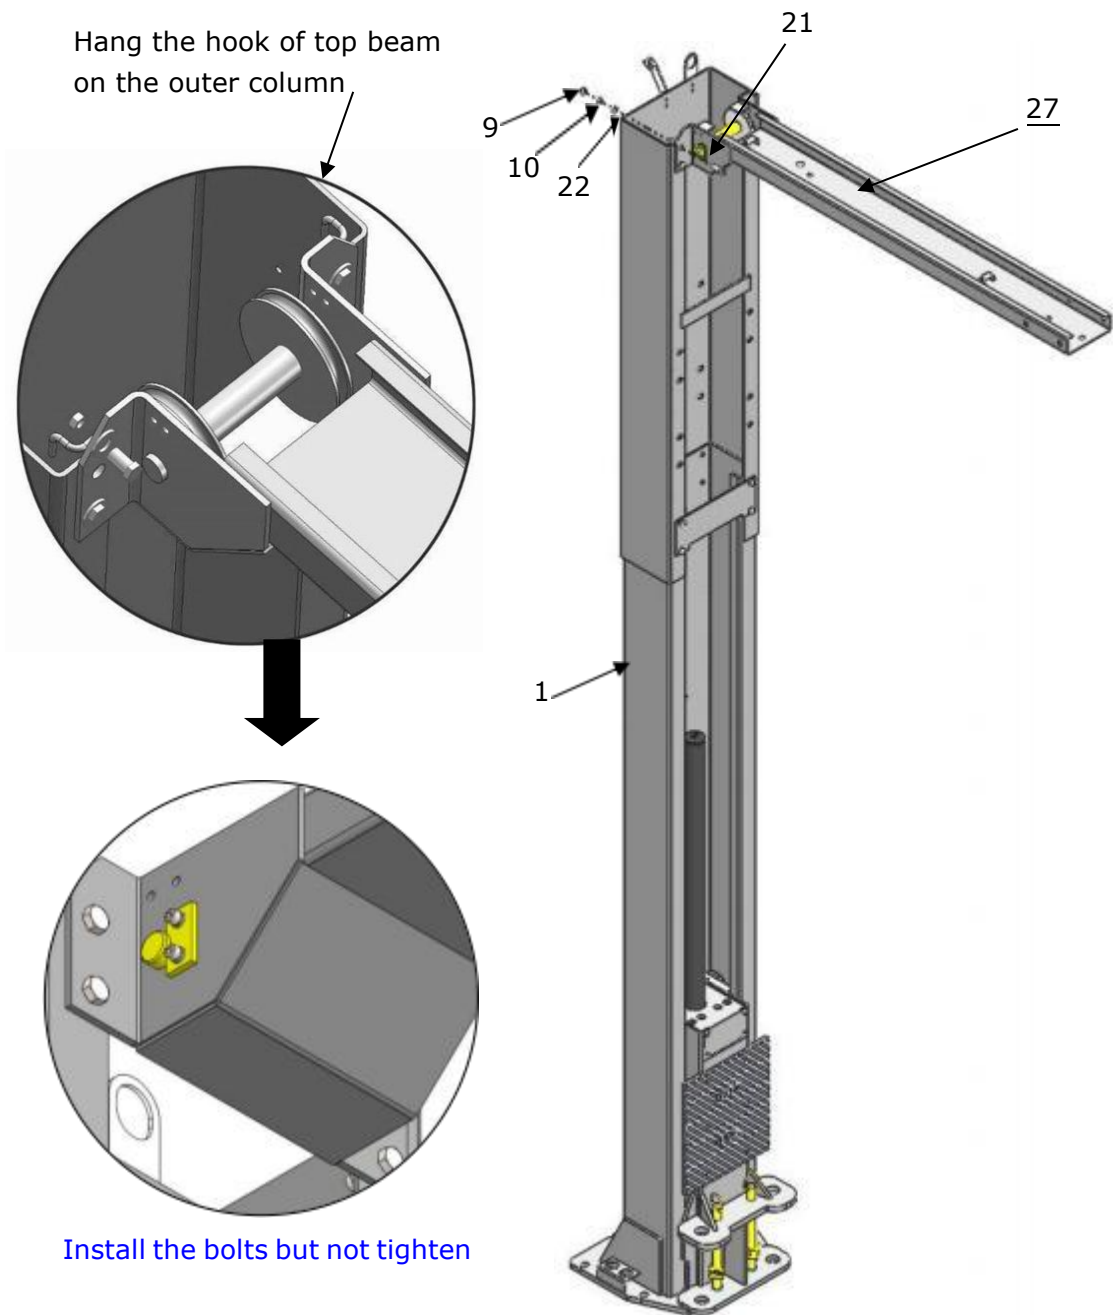

Fig. 25
1. Hang the hook of top beam(Left) on the outer column, and then align the holes and **install** the bolts. (See Fig. 25).